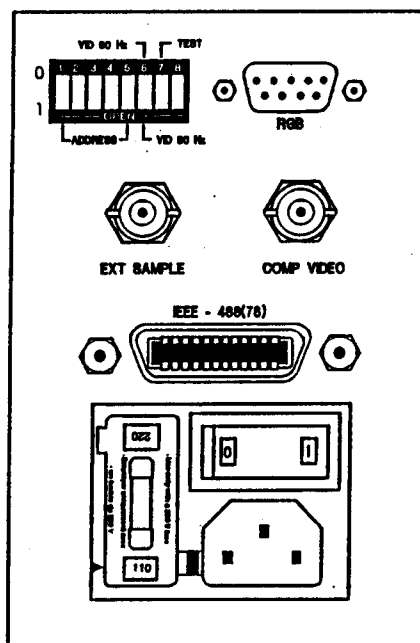

Figure 2-1. Instrument Side Panel Showing the Location of the Voltage Selector, Fuseholder and Display Refresh Select DIP Switch
- a. There is a voltage selector that is an integral part of the fuseholder and power switch assembly. This assembly is located on the right side of the instrument. Make sure the voltage selector reflects the proper line voltage that is to be used (refer to Figure 2-1).
- c. There is an 8-position DIP switch located on the right side of the instrument. One of these DIP switches is for selecting the display refresh update rate (refer to Figure 2-1). For operation in areas that use 60 Hz ac power, the Display Refresh Select DIP switch should be set to the 60 Hz position. In areas that use 50 Hz power, the DIP switch should be in the 50 Hz position.